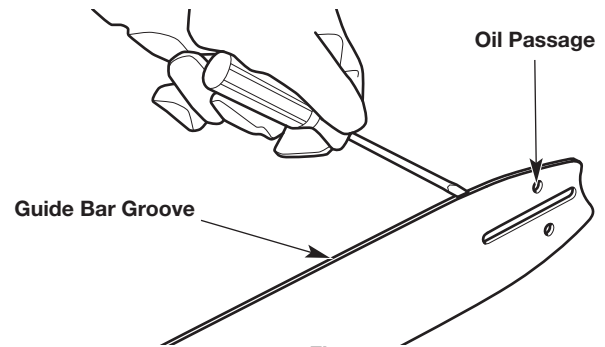
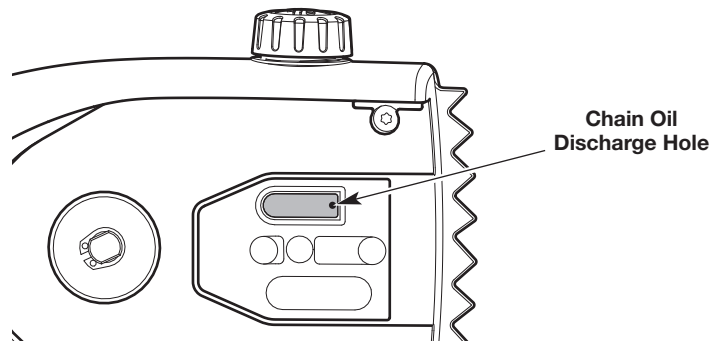

Fig. 41
Fig. 42
- Clean the guide bar groove and oil passages whenever the saw chain is removed, when the unit has been used heavily or when the saw chain appears dirty. Use a screwdriver, putty knife, wire brush or similar instrument to remove debris from the guide bar groove (Fig. 41). Use a small, soft wire to remove any debris from the chain oil discharge hole (Fig. 42).